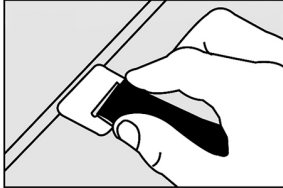

Fig. 6
5. Loosen the two long straps (B) and remove any twists. Clip the hooks into the upper trunk or hatchback door (Fig. 6.). Do not attach the hooks to glass or plastic. Tighten enough to hold it in place.